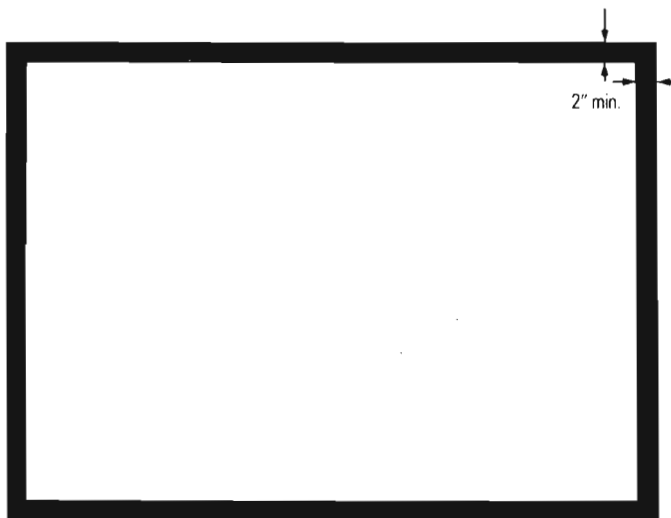

Figure 1
- If it is not parallel, see Figures 1,2 and 3 and repeat steps indicated; first check to see if projector is parallel to the screen. Adjust if necessary.